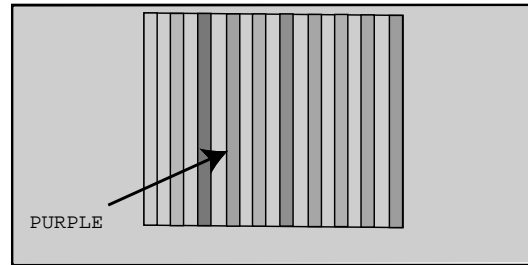

Figure 59. **Rainbow Pattern**
1. Apply a Black levels Pattern (See Figure 59)